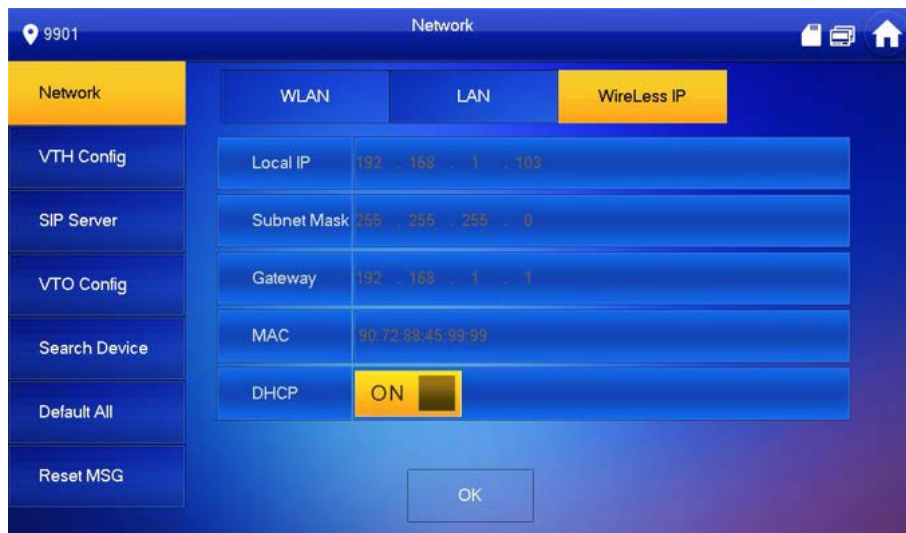

Figure 5-18
- ◇ At “WLAN” interface, select Wi-Fi, click “Wireless IP” tab, press  OFF to enable DHCP function and obtain IP info automatically, as shown in Figure 5-18.